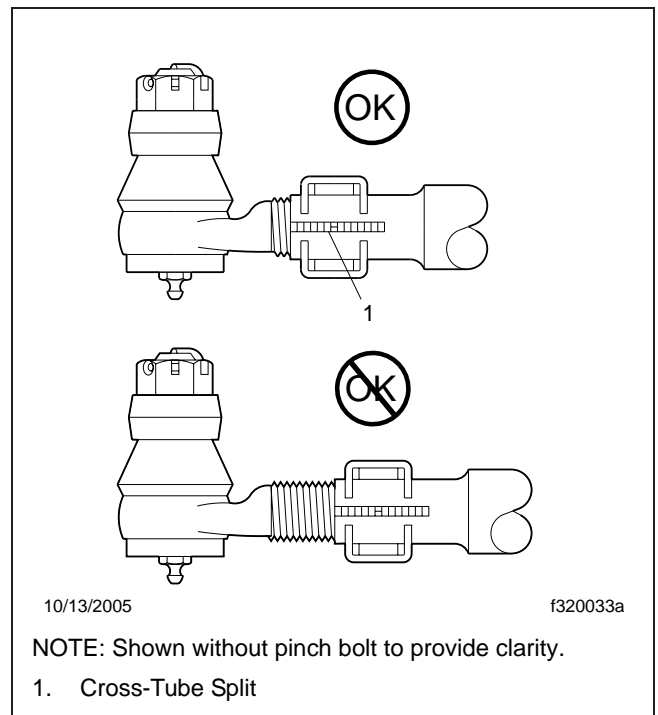

Fig. 2, Tie-Rod End Adjustment
2. The threaded portion of the tie-rod end assembly must be inserted all the way into the cross-tube split for adequate clamping. See **Fig. 2**. Replace the components if this cannot be done. For instructions, see **Group 33** of the *Condor® Workshop Manual*.